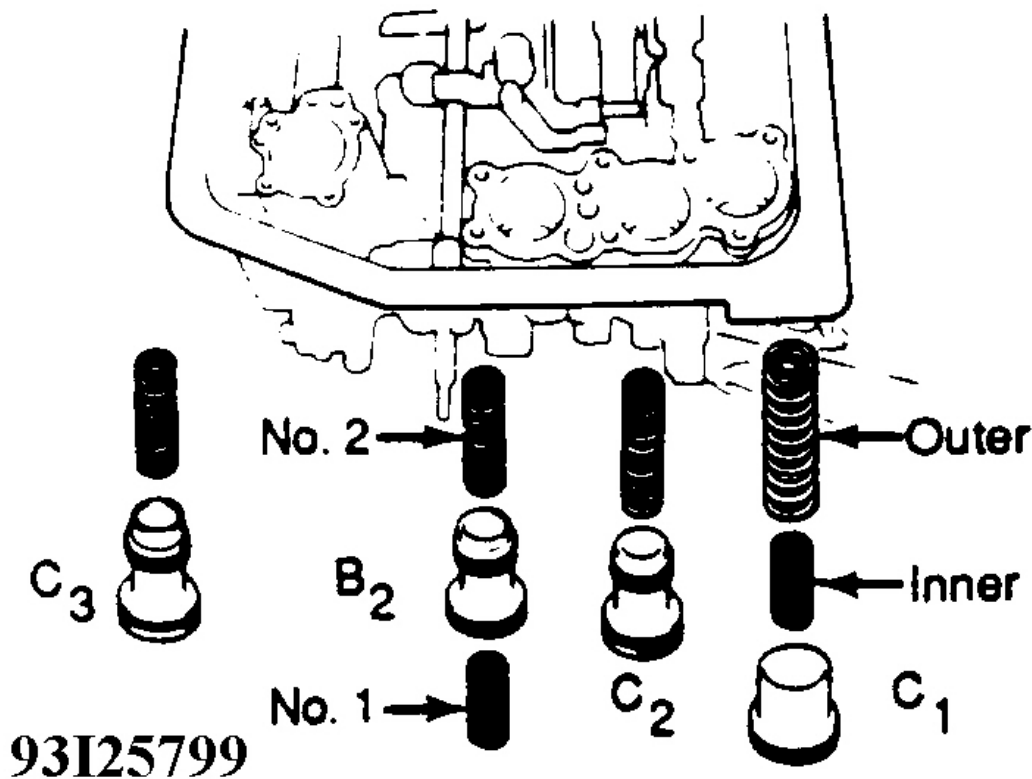

Fig. 59: Exploded View Of Accumulator Pistons & Springs
27. Install accumulator pistons and springs. See **Fig. 59** . Coat the accumulator piston "O" rings with ATF. Install "O" rings. Install the pistons and springs. Install the accumulator cover and gasket. Tighten retaining bolts to 89 INCH lbs. (10 N.m). Refer to the **ACCUMULATOR SPRING FREE LENGTH SPECIFICATIONS** table.